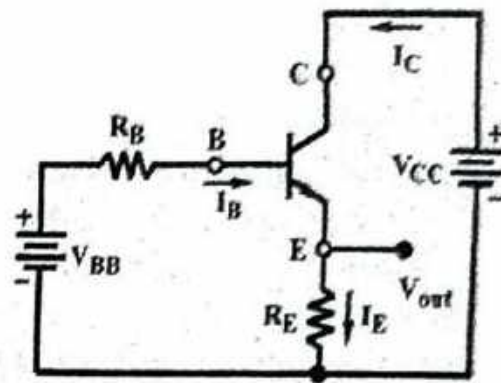

Fig. 5.64
(iii) **Common-collector (CC) Configuration** – In this configuration, the transistor is connected with collector as a common terminal as shown in fig. 5.64. The input is applied between the base and collector terminals. The output is taken between emitter and collector terminals.